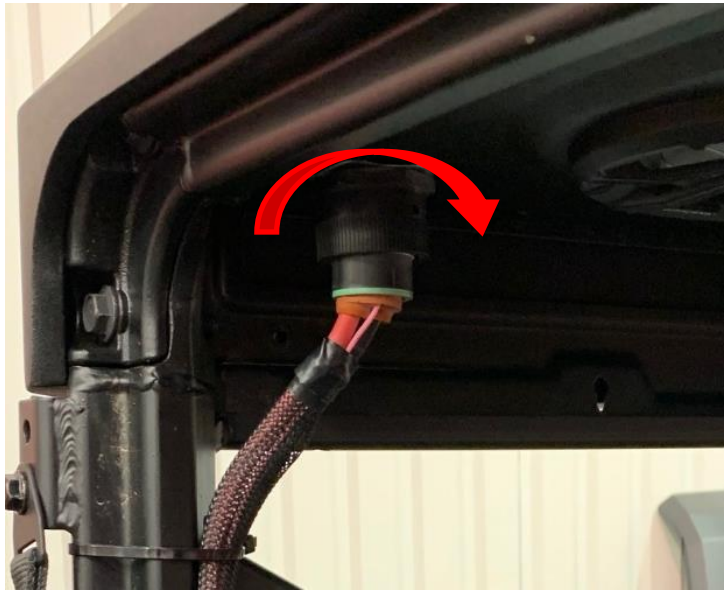

Figure 12: Align connector terminals and rotate 1/4 turn.
13. Line up the terminals on the chassis harness connector with the bulk head connector located on the back driver's side corner of the top. Plug the connector in and rotate the ¼ turn collar to lock the connector together. See Figure 12.